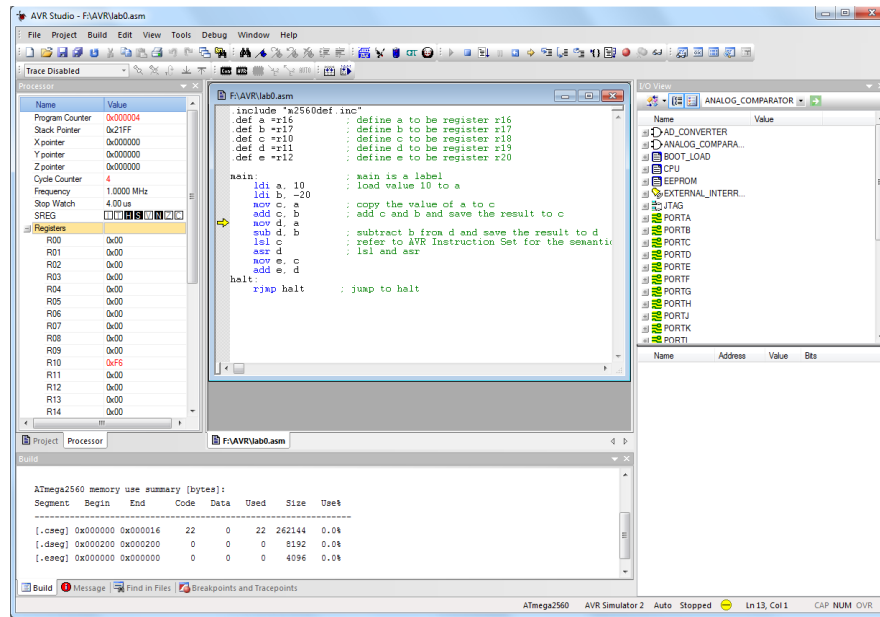

Figure 8: Single-Step Execution
Each AVR microcontroller has a Status REGISTER (named as SREG) that keeps 8 flags such as C, S and V. The definitions of all 8 flags in SREG can be found in Mega2560 Data Sheet (page 14), which is available on the course website (follow the link References → Documents → Mega256 Data Sheet). These flags are dynamically updated during the program execution, and also can be observed in the Processor window. When a flag bit is set, the corresponding bit block is blacked. For example, after the instruction “add c, b” is finished, bit 2 (N), bit 4 (S), and bit 5 (H) are set, as shown in Figure 8.